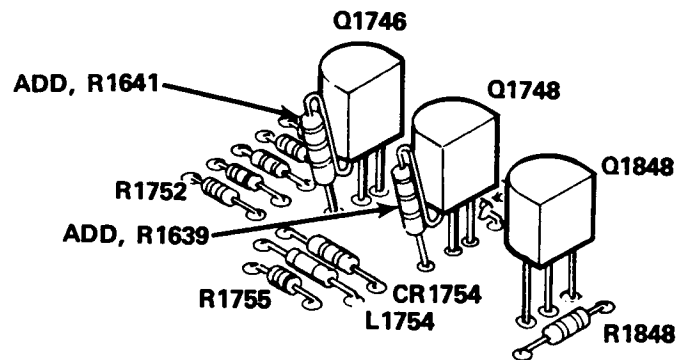

Figure 12. - Q1746 and Q1748 configuration.
- ( ) 23. Unsolder the base leads of Q1746 & Q1748 transistors from the circuit board, located nearest to CR1754. Solder one lead of R1641 and R1639, pn 313-1510-00, to the base leads of Q1746 & Q1748 respectively. Then solder the remaining leads of R1641 and R1639 to the circuit board pads from which the base leads were removed, refer to Figure 12.